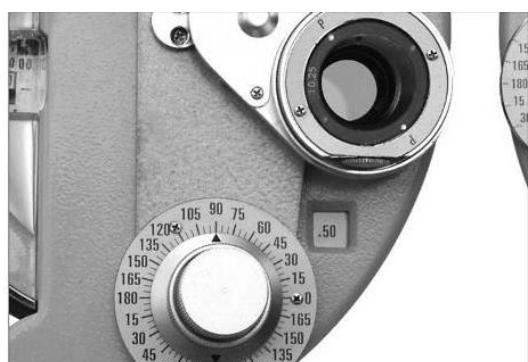

Fig.33
- (1) Set cross cylindrical lens ⑩ in front of Testee's right eye and, turning rotation knob ⑯ axially, to align it with axial direction of cylindrical lens (see Fig.33).